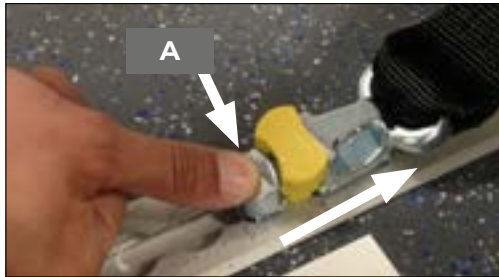

Figure 2
3. Install the front Quattro's into the rail by aligning the Quattro ATF (aluminium track fitting) feet with the cut-out sections of the rail and locate into the rail, (Fig 2).